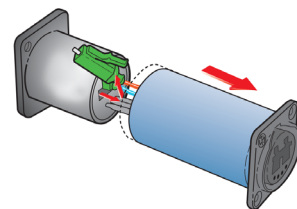

Figure 2-27: opticalCON Coupler Slide
- Step 4. Carefully slide cylindrical protector over one chassis, exposing the LC connectors from the other chassis. **(Figure 2-27).**